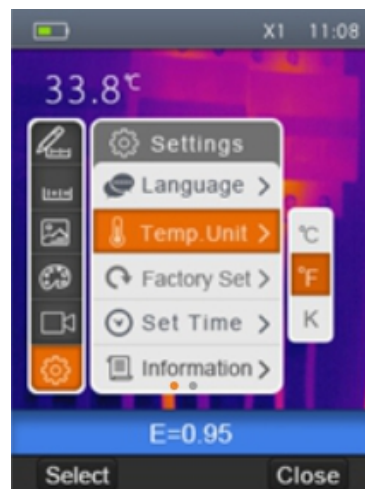

Fig. 9: Setting the temperature measuring unit
1. Select the item “Temp Unit” with the keys \oplus or \ominus and press the key \mathbb{E} . The screen Fig. 9 is shown on the display.